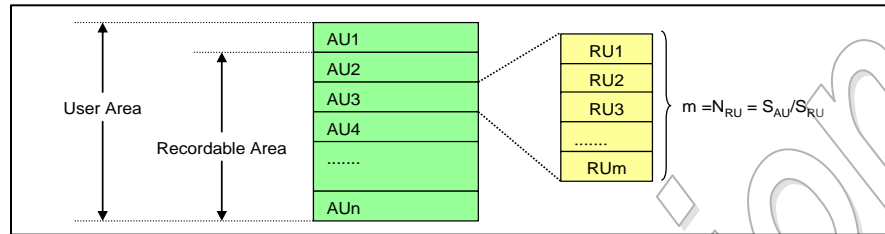

Figure 4-47 : Definition of Allocation Unit (AU)
4.13.1.1 Allocation Unit (AU)
The User Area is divided into units called "**Allocation Unit (AU)**" (Refer to Figure 4-47). AU is physical boundary in User Area of a card and is not defined by the file system boundary. Each card has its own fixed **AU Size (S_{AU})** and the maximum AU Size is defined depending on the card's capacity. The host
4.13.1.2 Recording Unit (RU)
Each AU is divided into units called "**Recording Unit (RU)**" (Refer to Figure 4-47). The unit of **RU Size (S_{RU})** is 16KByte. The RU Size is a multiple of 16KByte and shall not span across an AU boundary. Larger RU size may improve performance. The condition and requirement of the minimum RU Size is defined by Section 4.13.1.8.1. **The number of RUs in an AU (N_{RU})** is calculated from S_{AU}/S_{RU} .